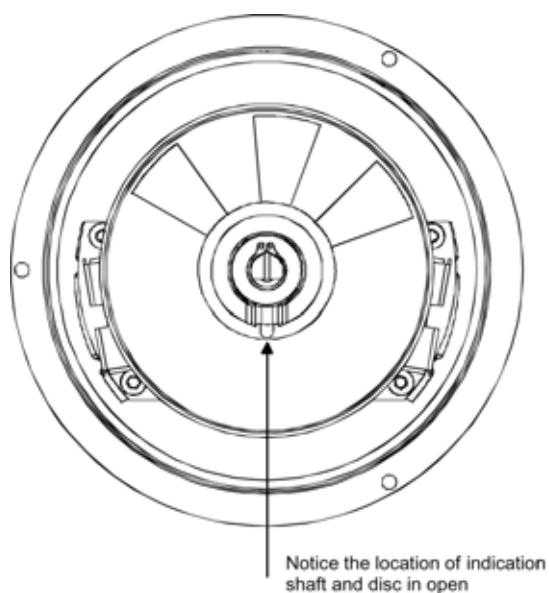

Figure 5.21
- 8) Pull up the brass operation shaft and adjust the lifting arm to the correct position according to Figure 5.21.